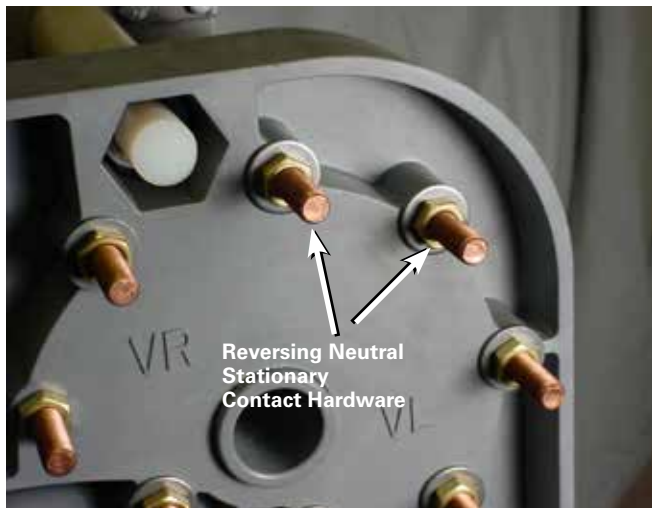

Figure 61. Reversing neutral stationary contact hardware.
7. Using a 9/16" wrench, loosen and remove the nuts and flat washers from both of the reversing neutral stationary contacts on the back of the tap-changer contact panel. See Figure 61.